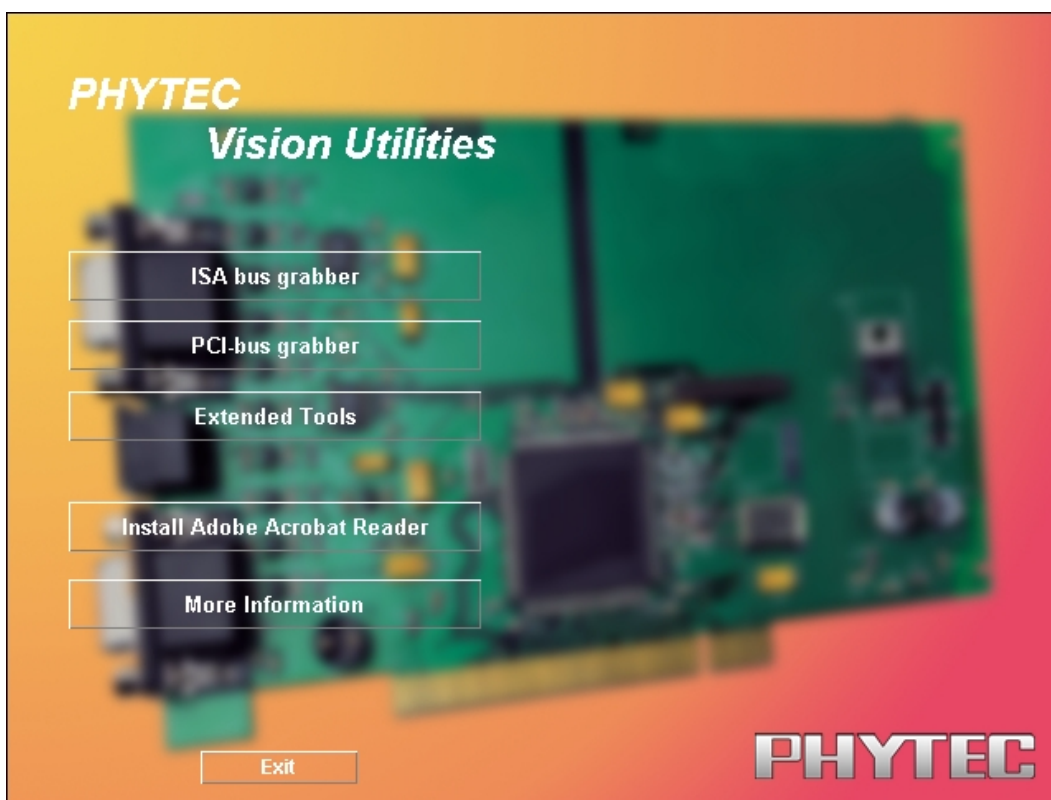

Figure 20: PHYTEC Installation Menu
- Select the *PCI bus grabber* from the installation menu that will appear (see *Figure 20*).